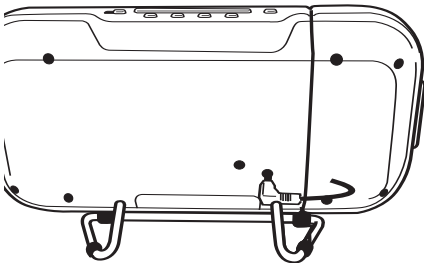

FIGURE 3
2. Connect the left speaker to the Left Speaker jack as shown in figure 3. To extend the speaker wire, connect the speaker plug into the extender (the side with the hole) and the other side of the extender (with the pin) into the speaker jack (see figure 4).